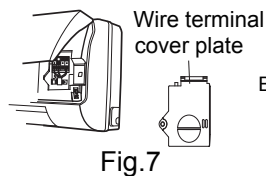

Fig.7
2. Screw off the fixing screw of cover plate and screw off cover plate (As show in Fig. 7)